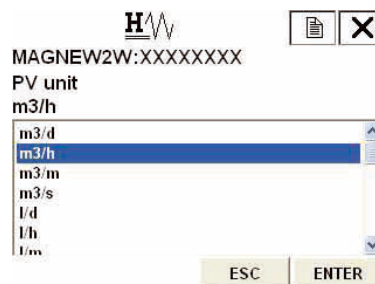

Figure 7-6 Selection of flow rate unit
4. Once the display as shown in Figure 7-6 appears, move the arrow key up or down to select a flow unit. After making a selection, press F4 (ENTER). If F3 (ESC) is pressed here, the selection will be canceled and the display will return to the basic menu.